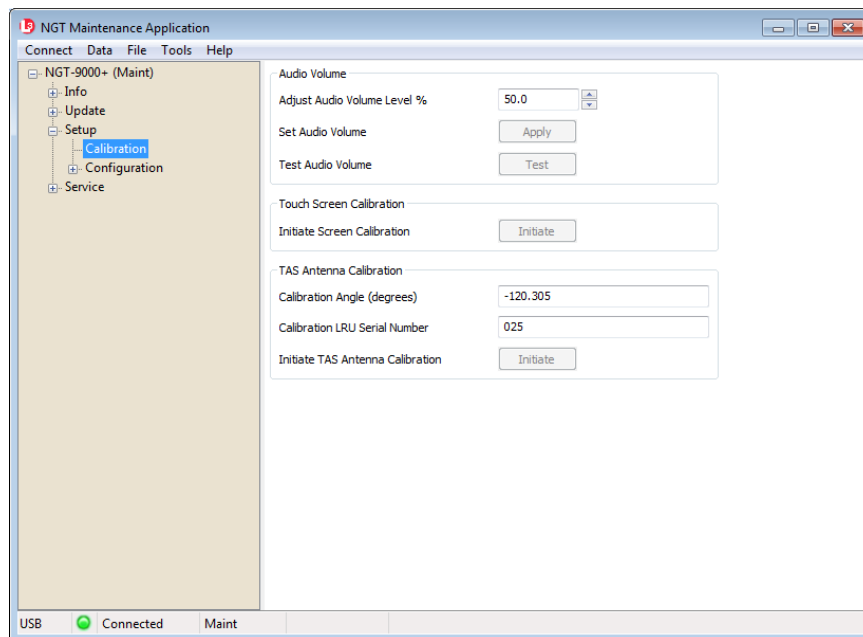

Figure 3-13: Lynx MAT – Setup - Calibration
1. From the Lynx MAT select Setup→Calibration. See Figure 3-13.